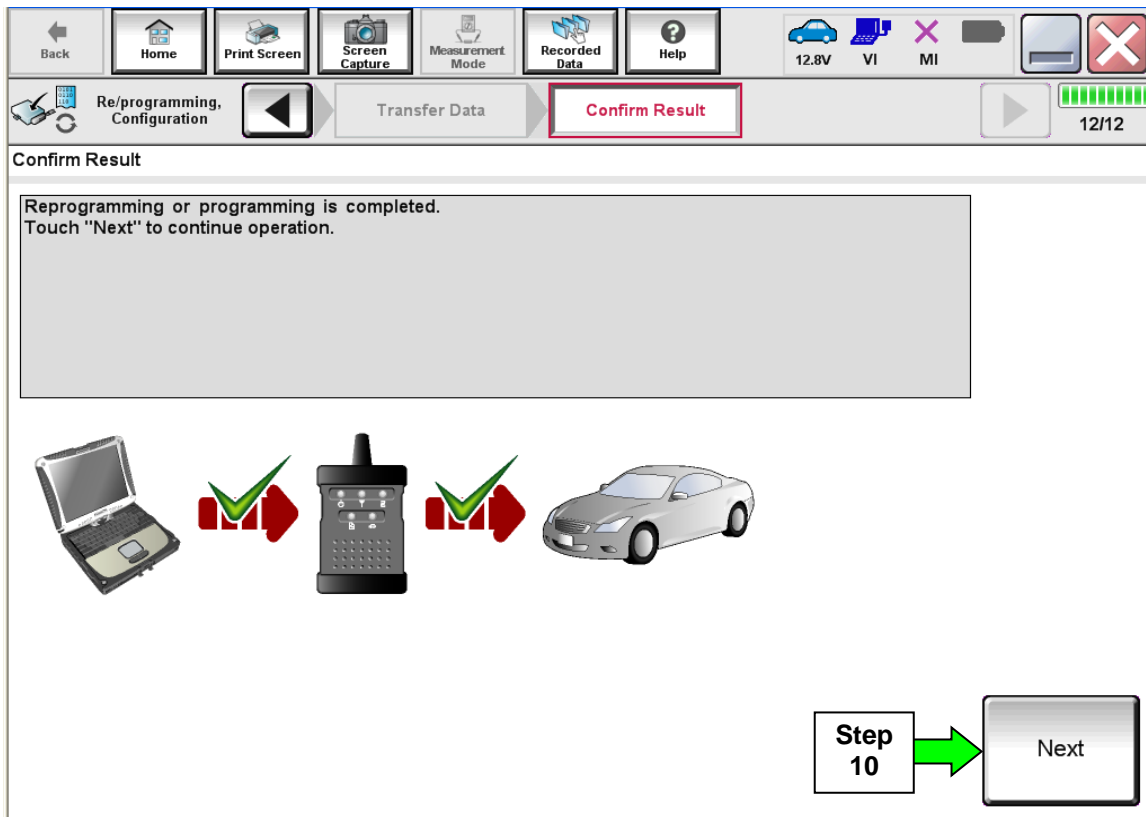

Figure 4
8. When the screen in Figure 4 displays, reprogramming is complete.
**NOTE:** If the screen in Figure 4 does not display (indicating that reprogramming did not complete), refer to **TCM Recovery** on the next page.